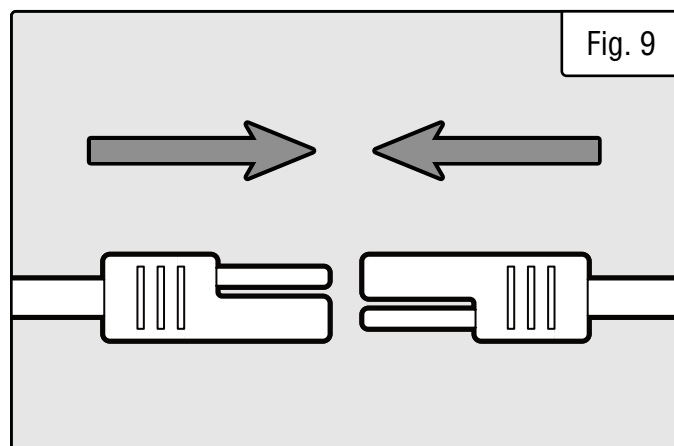

Fig. 9
2. Connect the two ends of the quick-connector on the battery (Fig. 9) to the ends of the quick-connector on the starter motor.